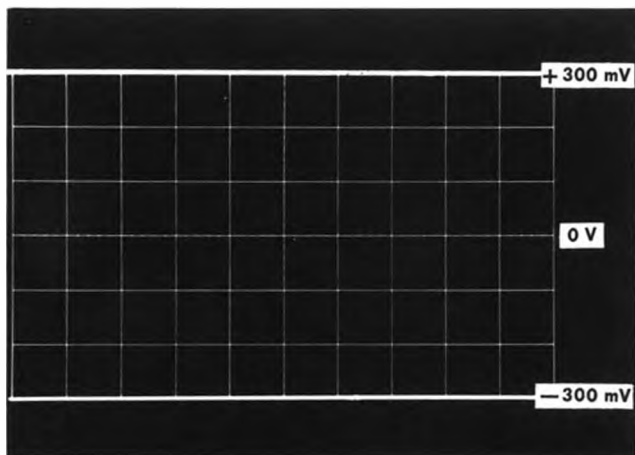

Fig. 6-7. Positioning range of OUTPUT DC LEVEL, with test oscilloscope set to 0.1 v/cm.
d. Rotate the OUTPUT DC LEVEL control throughout its range and check for a positioning range of + and -3 cm (\geq + and -300 mV). If necessary, readjust R93 so that the + and - ranges of the OUTPUT DC LEVEL control are equal. See Fig. 6-7. Return trace to the center graticule line with the OUTPUT DC LEVEL.